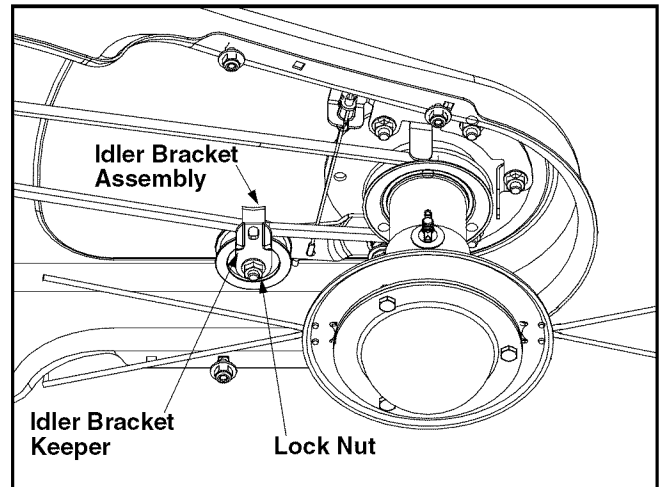

Figure 8
- Loosen the wing nuts and slide the spindle disc to the lowest position and tighten to secure in position. Refer to Figure 8.
- Remove lock nut that secures idler bracket keeper and idler pulley to idler bracket assembly and remove keeper. See Figure 8.